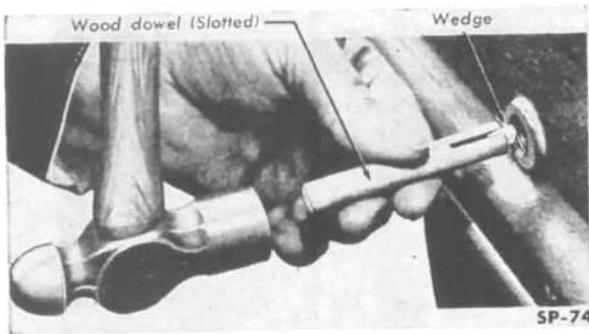

FIG. 32—REMOVING OIL PRESSURE RELIEF VALVE WITH WEDGE
- c. If the valve sticks and cannot be removed with the pliers, a wooden wedge may be used. To make the wedge, cut a slit in the end of a piece of wooden dowel stock and insert a small wedge into the dowel just far enough to hold the wedge securely (Fig. 32).